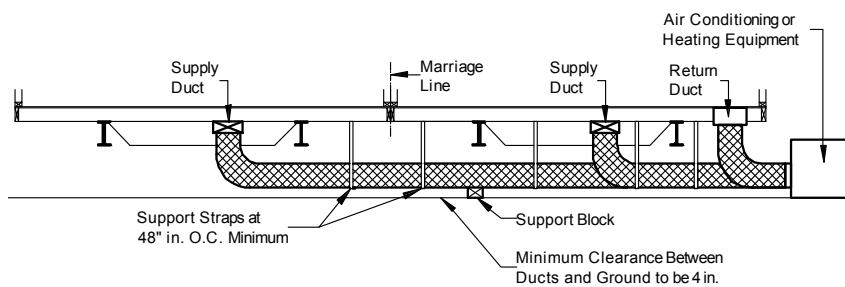

Figure 88. Ducts connecting exterior heating and/or cooling equipment to the home
2. **Install ducts.** Install the appropriate supply and return ducts (not provided) between the remote unit and the home (**Figure 88**) making connections according to the instructions for crossover ducts in **Crossover Connections** (p. 49).